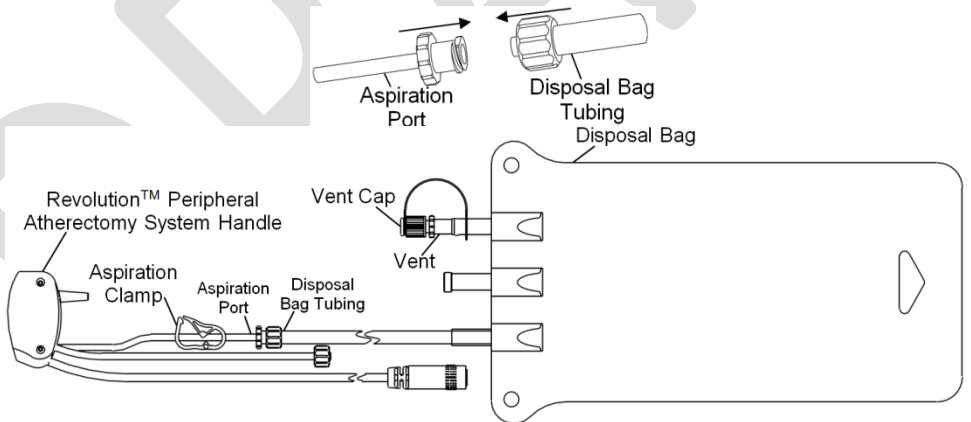

Figure 6: Connect disposal bag
3. Attach the supplied disposal bag to the aspiration port, as seen in Figure 6. **NOTE: Close the disposal bag vent with the vent cap prior to use. Ensure that the aspiration clamp is opened and the tubing is not damaged. Never activate the device if the aspiration clamp is closed.** The Revolution™ Peripheral Atherectomy System is now ready for use.
11. Release the ON/OFF button so that the Revolution™ Peripheral Atherectomy System is no longer rotating and image the vessel. **Warning: When the Revolution™ Peripheral Atherectomy System is not activated, arterial pressure may force excess blood into the disposal bag. Always shut the aspiration clamp, as seen in Figure 6, when the device is not in use. Before subsequent use, ensure that the clamp is opened and tubing is not damaged. Never activate the device with the aspiration clamp shut.** If continued treatment is required, push the speed switch to the back position (slow speed) and depress the ON/OFF button to fully remove particulate from within the system. Ensure the system is flushed with heparinized saline and push the speed switch back to the forward position (fast speed) before activating the Revolution™ Peripheral Atherectomy System again.